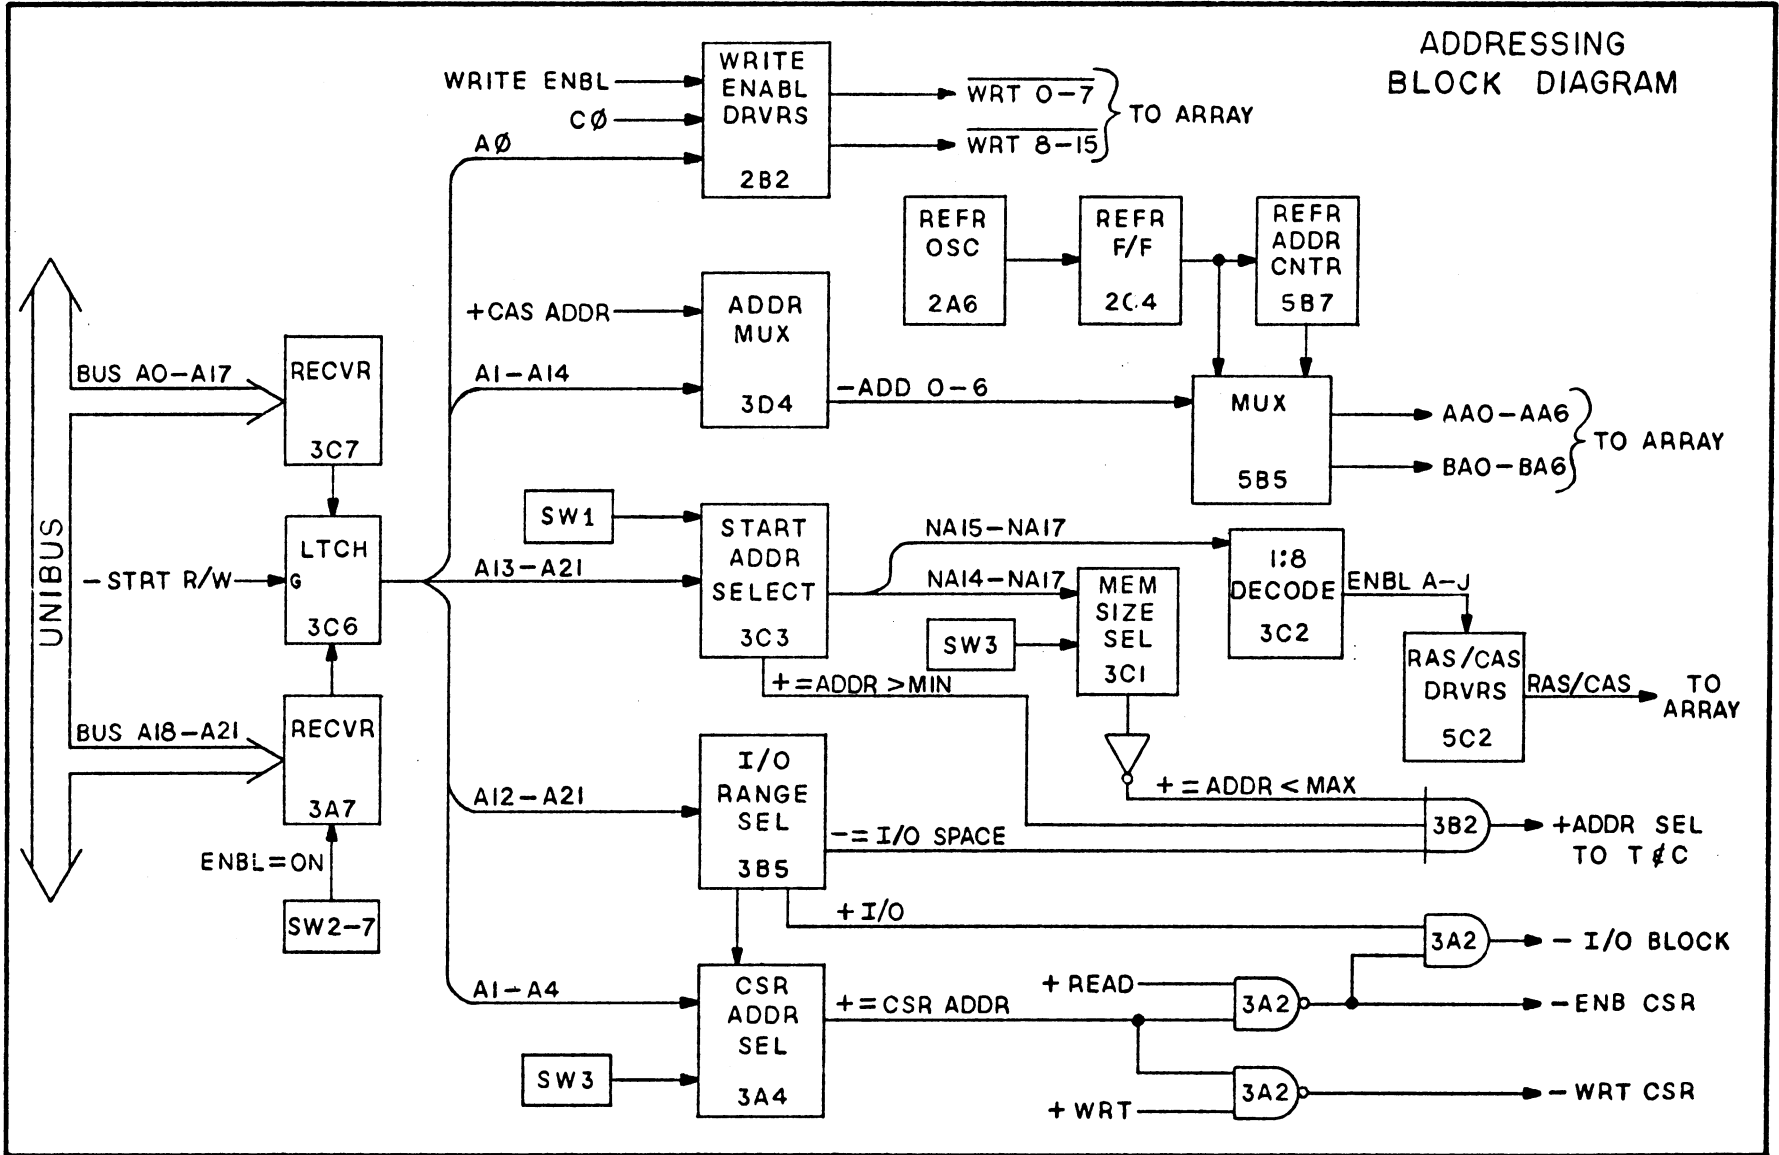

FIGURE 3-2
3.3 ADDRESS (FIGURE 3-2)
The NS11L Memory accepts a full 22-bit address with the least significant bit being used to control Byte Write. The address lines to the memory are single rail and the addressing mode is random. Address signals are identified as A0 through A21 (See Figure 3-2).
Four Buffer chips receive the address from the bus. The address is stable on the Bus for 75 nsec, prior to receipt of MSYNC, the Master Sync pulse. During this time it is processed through the address selection circuitry (see Figure 3-2). The address buffers receive and pass all inputs from the bus to the